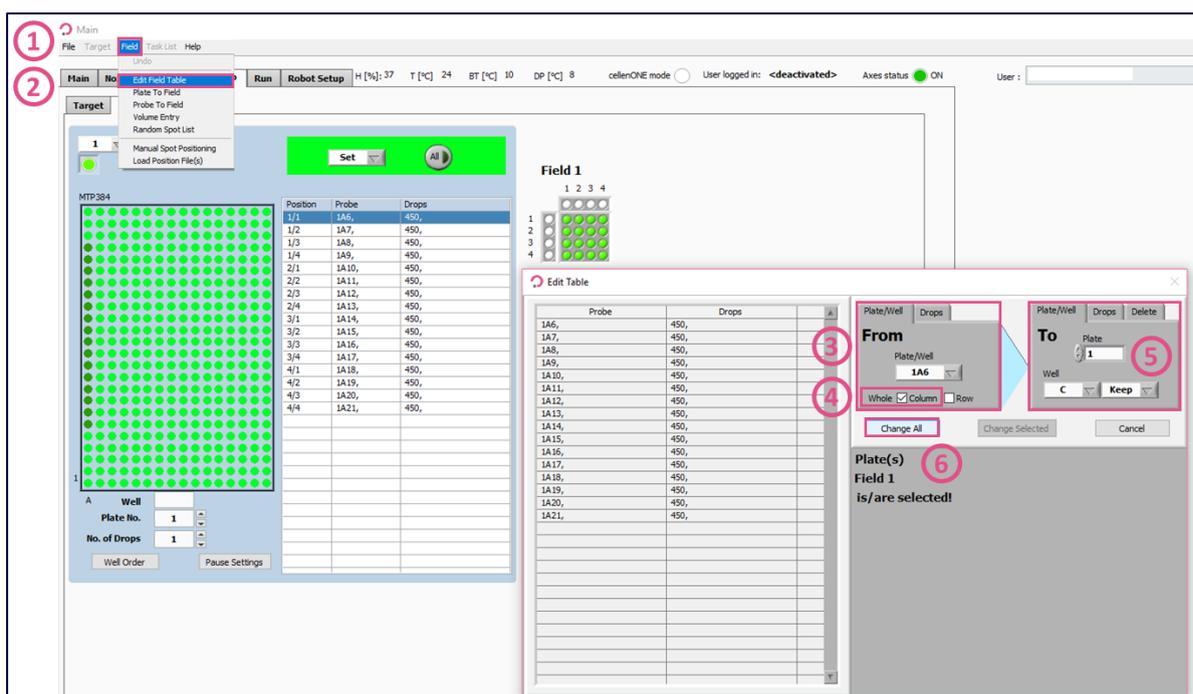

Figure 5. Edit Field Table.
- The **Edit Table** pop-up window can be found at: **Field Setup >> Field >> Edit Field table** (Figure 5).
To modify the number of drops in the Field setup refer to Figure 5 and change the number of drops by clicking on the **Drops** subtab in displays (4) and (5) (Figure 5.4).